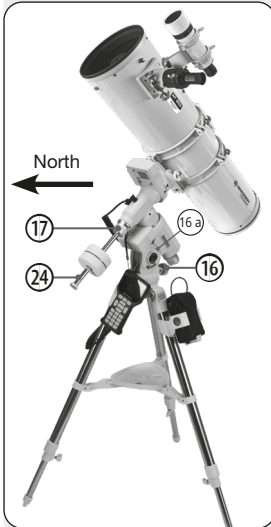

Fig. 24: Equatorial home position (side view)
1. Release the RA clamp (17). Swing the tube until the counterweight shaft points directly towards the ground (Fig. 24).